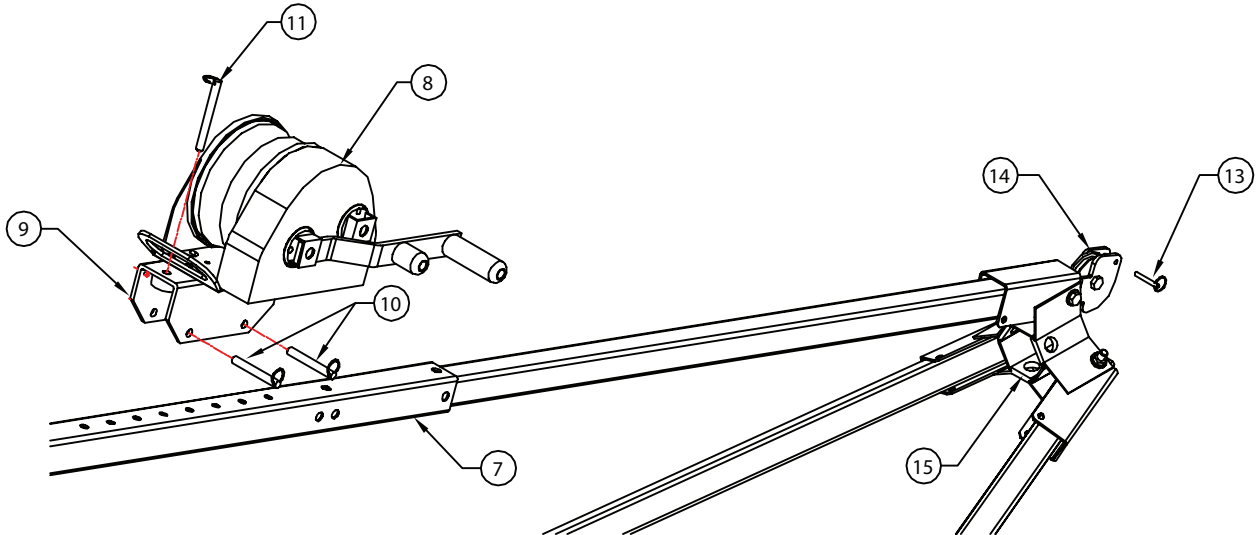

FIG. 4c
2. Remove the three winch bracket retainer pins [10, 11] and install winch bracket [9] over tri-pod leg [7]. (see Fig. 4c)